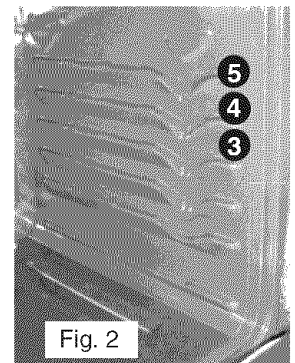

Fig. 2
3. When using 2 oven racks at the same time, place in positions 1 & 4 for best results (See Fig. 2).
Broil Oven Rack Position Table (Refer to Fig. 2)
2. Pull the door hinge locks on both left and right door hinges down from the oven frame completely towards the oven door (See Fig. 2). A tool such as a small flat-blade screwdriver may be required.
4. Push the door hinge locks up towards and into the oven frame on both left and right oven door hinges (See Fig. 2) to the locked position.